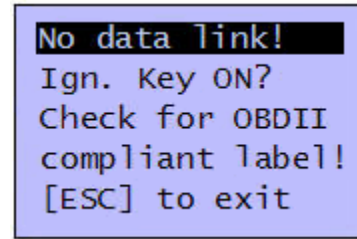

Figure 10
- If the Scan tool fails to link up with the vehicle's computer, it will show a message as displayed on the LCD screen: (Figure 10)